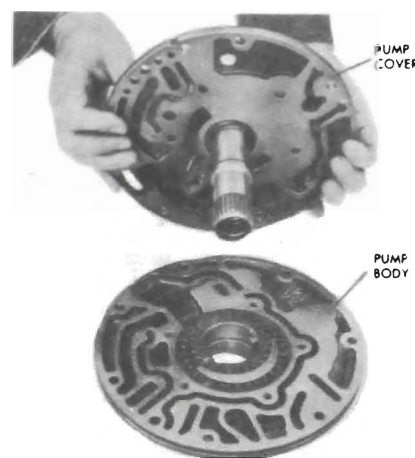

Figure 76-623
7. Remove pump cover from body. See Figure 76-623.